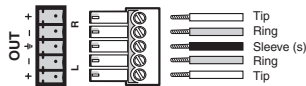

Figure 2-6 — Balanced audio output connector
1. Wire a 3.8 mm, 5-pole captive screw connector as shown in figure 2-6.